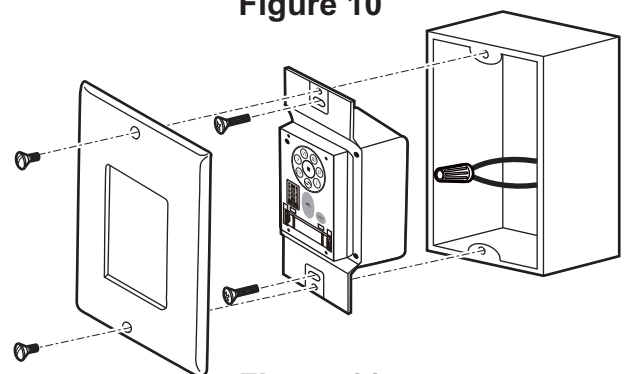

Figure 11
2. Carefully tuck the wire connections inside the outlet box. Secure the wall control with the two wall switch screws provided. (Fig. 11)